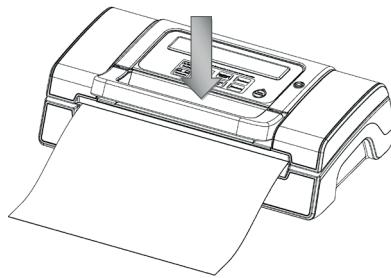

Fig. 6
6. Close the top cover and press tightly till you hear it click in place on both sides. (Fig.6)